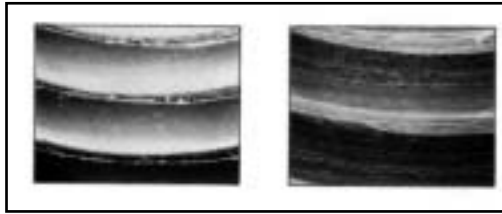

Figure 2: A forming tap produces threads with a finer finish (left) than a cutting tap does.
- Achieve surface finishes finer than 32µin., minimizing thread corrosion and improving abrasion resistance (Figure 2).